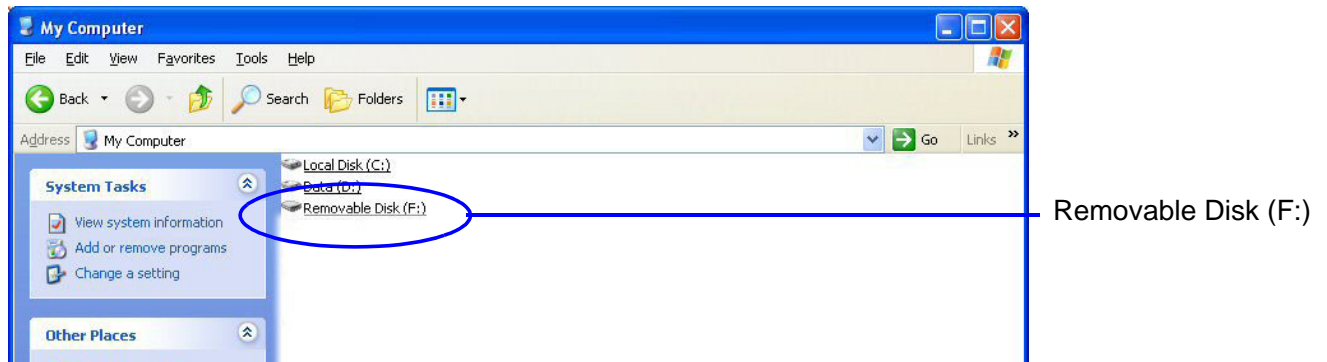

Figure 8-153 Removable Disk Shown under My Computer
- 3) Under My Computer, after a while, the disk will show as a new drive, named **Removable Disk** - refer to Figure 8-153 on page 8-153. (It will be allocated the next available drive letter.)
- 3) Under My Computer (refer to Figure 8-153 on page 8-153), verify that the drive appears for selection.